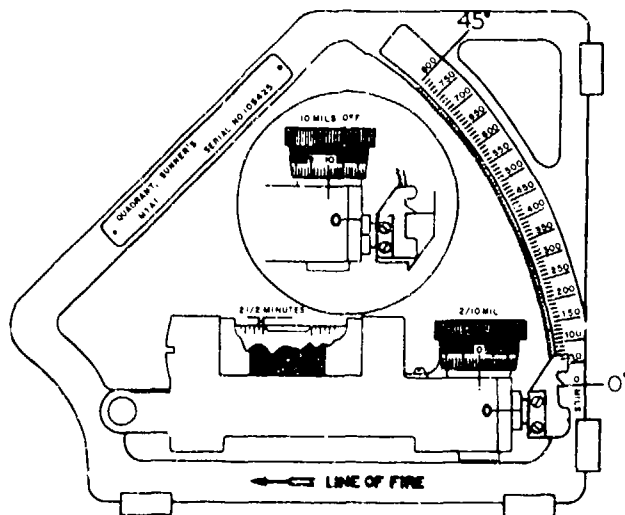

Figure 3-18. Gunner's quadrant M1A1.
a. The gunner's quadrant (fig 3-18) is used on the 105-mm howitzer primarily during sight tests and adjustments; however, it may be used when the range quadrant is inoperative or, when necessary, to split a mil in elevation. The gunner's quadrant will not measure a true vertical angle when it is used on the breech ring of a canted weapon.